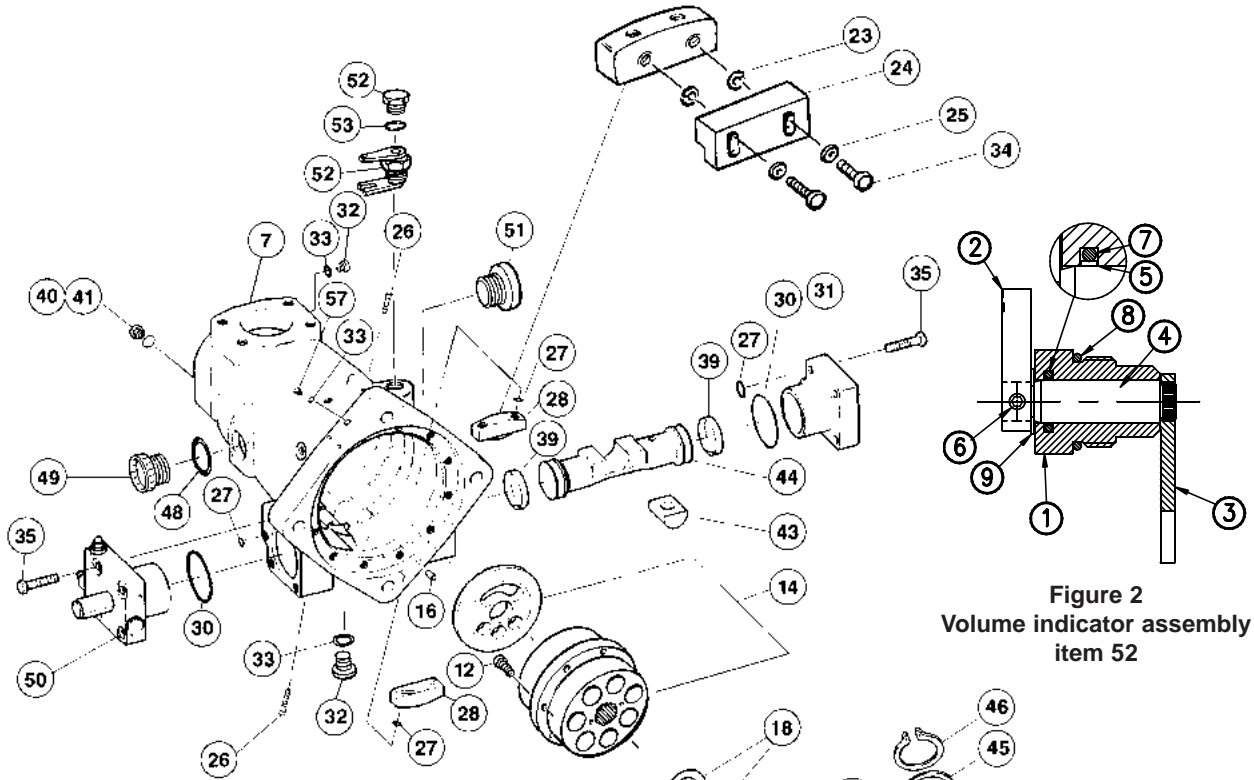

Figure 2
3. Remove cradle assembly (6) from the housing. The 3/8-16 threaded hole in end of the shaft is provided for lifting this assembly.
5. Remove snap ring (4).
6. Remove screws (47) to remove cam bearings (42).
7. Remove shaft, bearing, and seal retainer assembly (1). Support flat face of the rocker cradle and press end of shaft opposite the bearing end.
9. Remove retaining ring (20).
11. If pump contains a volume indicator assembly (52): *Refer to. Figure 2:* Remove indicator pointer (2), retaining ring (9) and pivot nut (1) from pump housing. Remove pivot shaft and fork assembly (3) and (4) through the hole.
12. Remove two screws (34), two washers (25), clearance bearing (24), and two washers (23) from retainer (28).
13. For compensator, torque limiter or load sensing control pumps, wind maximum volume screw CCW until piston (44) bottoms out.
14. Remove control cap (50) and control cap (31). (*Refer to controls section for control disassembly*).
16. Lift cam assembly (10) from pump. (Link (43), pistons and shoes and retainer plate(17), wear plate (22), and hold-down (45 and 46) are part of the cam assembly.)
17. Remove slide link (43), retaining ring (46), thrust washer (45), pistons, shoes & retainer assembly (17) and wear plate (22). The pins for the slide link and for the indicator have been pressed into the rocker cam and should not be removed.
18. Remove two screws (34), two screws (26), and two retainers (28).
19. Remove Belleville washers (18) and barrel stop (19).
20. Attach tool (T-1) (pg. 77) to barrel assembly (14). (Two M6 screws are required.) Lift barrel from port plate and housing.
21. The inner race of bearing (11) has a light press fit with barrel. Do not remove the inner race unless bearing needs to be replaced. If replacement is necessary, remove seven socket head cap screws (12). Replace with M6 x 6 1/2 in., 165mm long soc hd cap screws. Rest assembly on the extended screws. Press barrel from inner race. Care must be taken to avoid damage to barrel face.